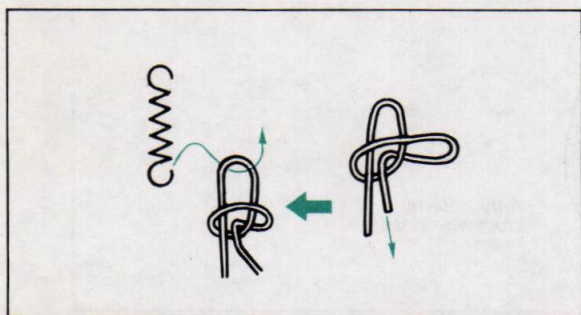

Fig. 2-8. Tying square knot in the coil spring
3. Tie the end of the cord to a spring as shown in Fig. 2-8.